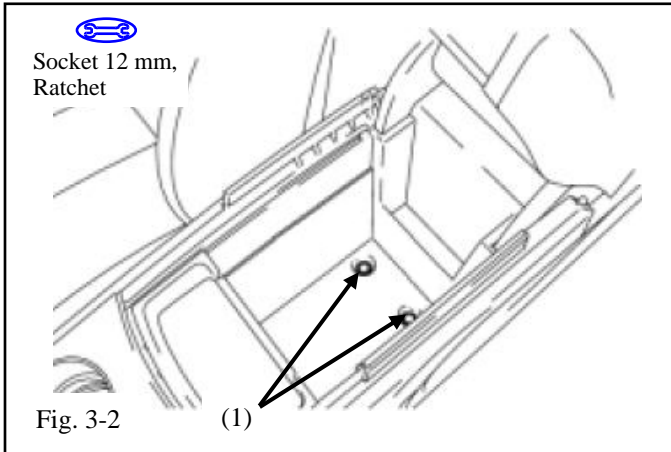

Fig. 3-2
- (b) Remove the two 12 mm bolts (1) from the console box bottom. (Fig. 3-2)